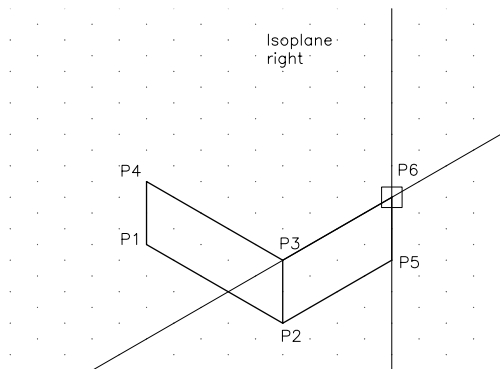

Figure 24-10 Drawing the bottom right face
3. Change the isoplane to the isoplane right by pressing the F5 key. Invoke the **Line** tool and draw the lines, as shown in Figure 24-10.